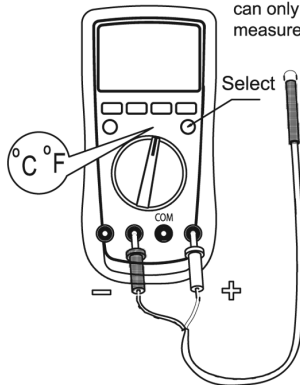

figure 9)
**H. Temperature Measurement (UT61B and UT61C only) (See figure 9)**
2. Insert the temperature probe into the input terminal as shown on the figure 9.